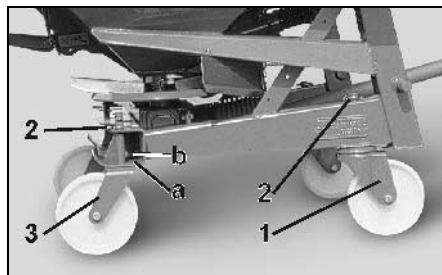

Fig. 72
- Fit the pressure bearing rollers (Fig. 72/1) at the front of the bar and secure with split pins (Fig. 72/2).
- Fit the rollers (Fig. 72/3) at the rear in the hook-in bar and secure with split pin (Fig. 72/2).